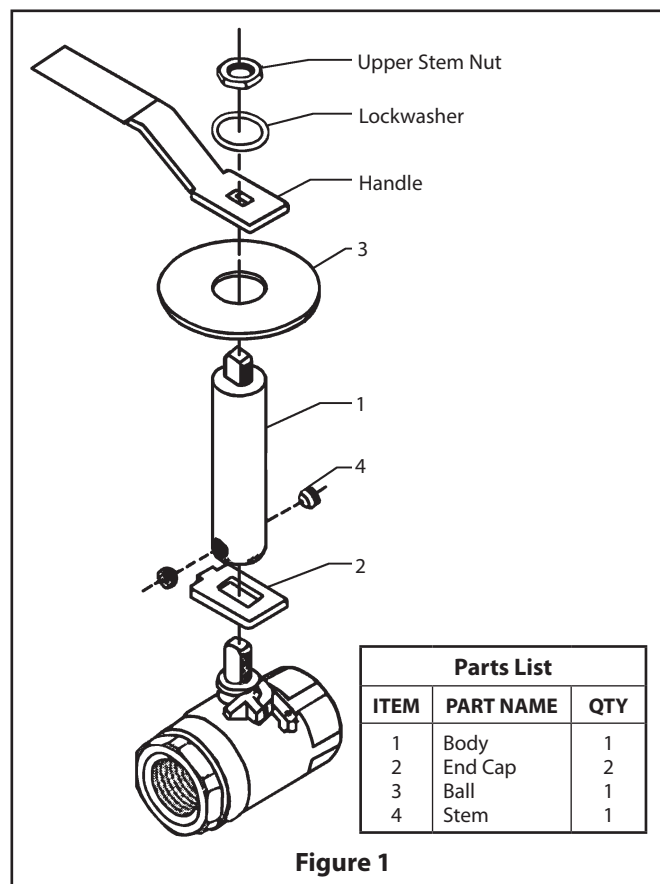

Figure 1
1. Close the valve. Remove the stem nut (16), shakeproof washer (9), handle (15), and gland nut (18). (See **Figure 1**).
2. Unscrew and remove the body cap (2) and seal (6). Loctite® is applied to the cap (2) at assembly so heat may be required.
3. If the ball (3) and seats (5) do not fall from the body with the ball in the fully closed position, then gently tap the ball (3) out from the end opposite the body cap (2). Be sure to use a soft material that will not damage the ball.
4. Push the stem (4) from the top of the valve into the body (3) and remove it through the body cap (2) end of the body (1).
5. Remove the stem bearing (8) and stem seals (7). The stem seals may have to be pried out. Be careful not to damage the gland nut (18) threads in the body (1).